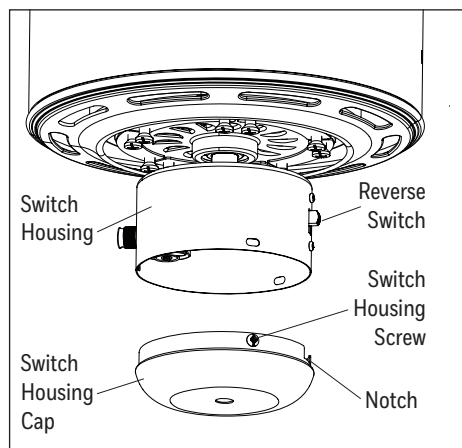

Figure 5.5
5. Remove the three switch housing screws from the switch housing cap. Then, attach the switch housing cap to the switch housing using the switch housing screws (Figure 5.5).